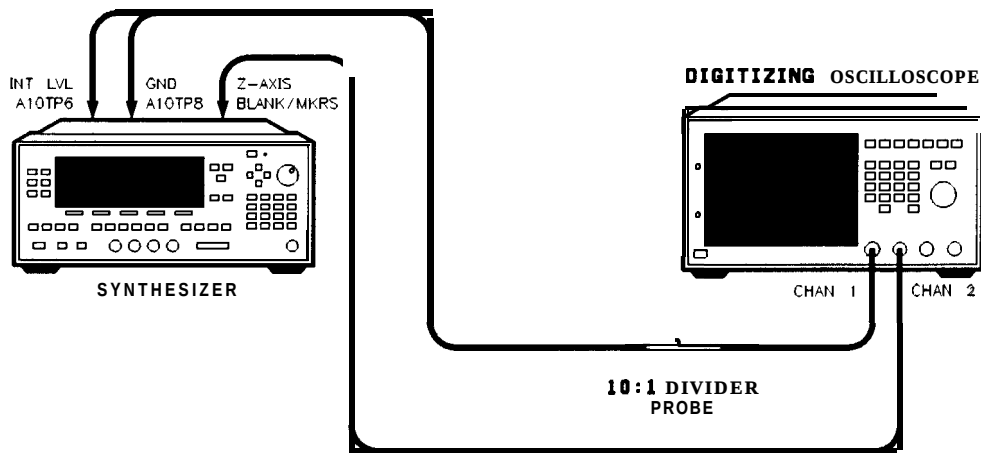

Figure 3-27. Modulator Offset and Gain Adjustment Setup
1. Connect the equipment as shown in Figure 3-27. Preset the instruments and let them warm up for at least one hour.
Select **Modify Cal** . Use the numeric keypad to enter the corresponding default value in Figure 3-27. Terminate your entry with the **(ENTER)** key.
4. Using the up/down arrow keys, select each of rest of the calibration constants in Figure 3-27 and set their default values by entering the value on the numeric keypad. Terminate your entry with the **(ENTER)** key.
5. Connect the oscilloscope as shown in Figure 3-27.